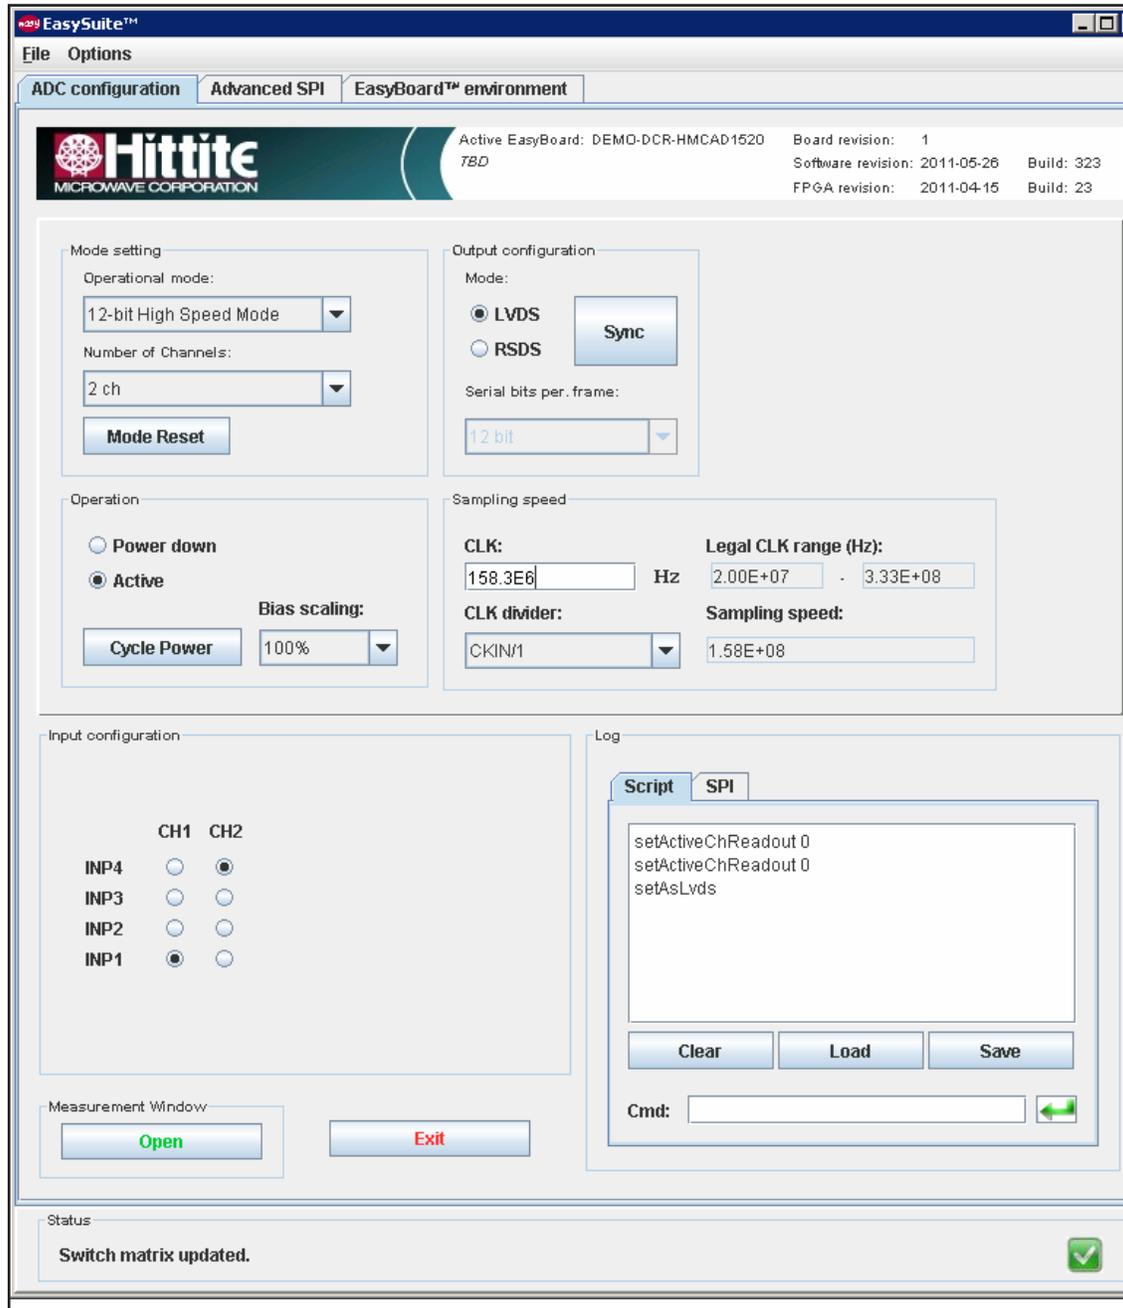

Figure 18. EasySuite Configured ADC Configuration Window
Configured 'EasySuite ADC configuration' window is shown in Figure 18.
- Clicking on 'Open' in the 'Measurement Window' menu of EasySuite in Figure 18, opens the EasySuite 'Measurement' tab. Then clicking on 'Single run' in the EasyView's 'Measurement' tab displays the following results in time domain and FFT plots.